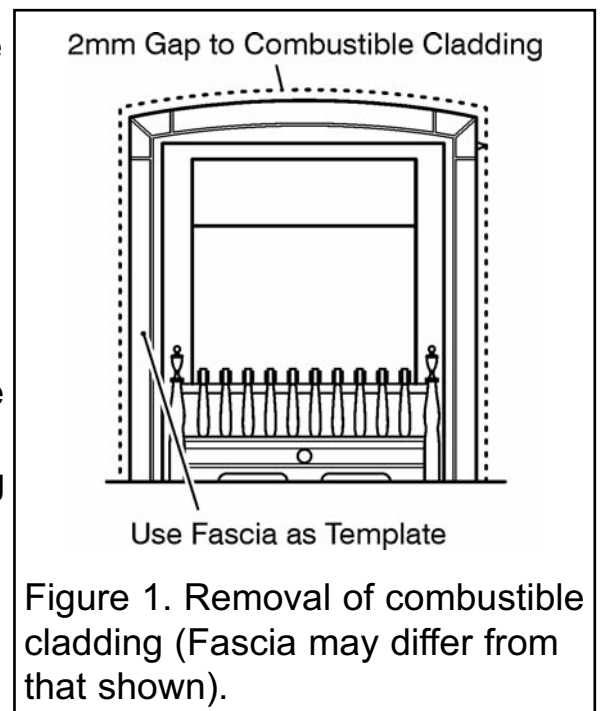

Figure 1. Removal of combustible cladding (Fascia may differ from that shown).
**3.7.4** If the appliance is to be fitted against a wall with combustible cladding, the cladding must be removed from the area covered by the fascia. The cladding must also not touch the fascia (See figure 1). We suggest that the actual fascia is used as a template to mark the area for combustible cladding removal and that this area is increased by at least 2mm all round.